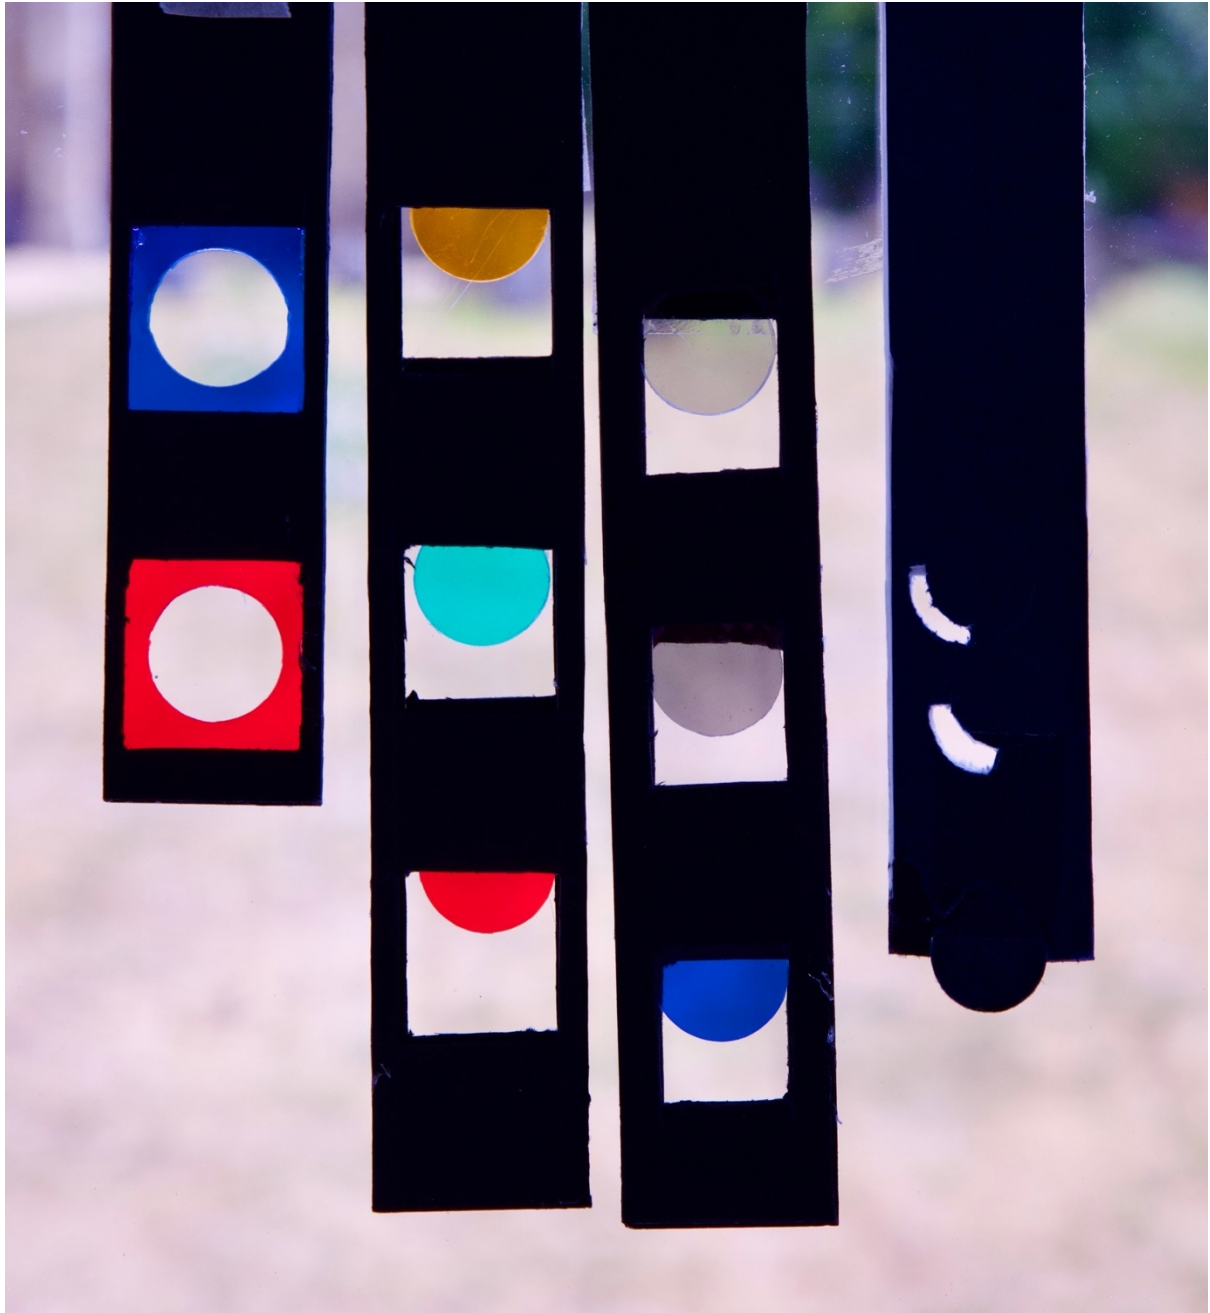

Figure 4. Selection of filter strips. From the left:-
In practice what I use is a crescent slit made by cutting out a circle of card at the end of the strip (Fig 4). Use the template to decide how big the diameter has to be.
- A. A coloured filter to give Rheinberg effect (Fig 4 )
- B. A coloured filter to give background colour (Fig 4 )
- C. The oblique slide filter (Fig 4 )